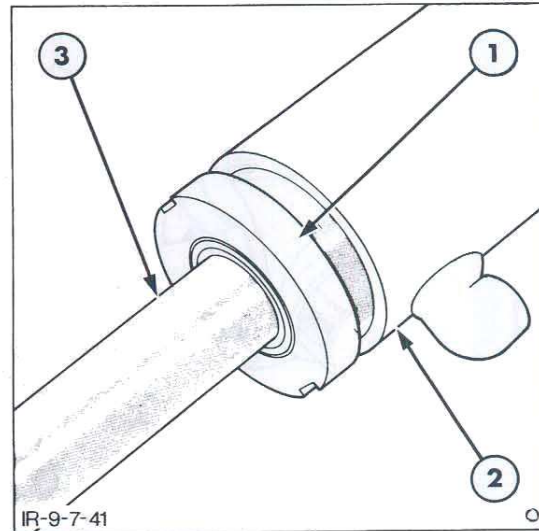

Figure 41
4. Pull out the rod from the cylinder and knock the gland from the cylinder end. If necessary, continue to rotate the gland during this operation. Figure 41.